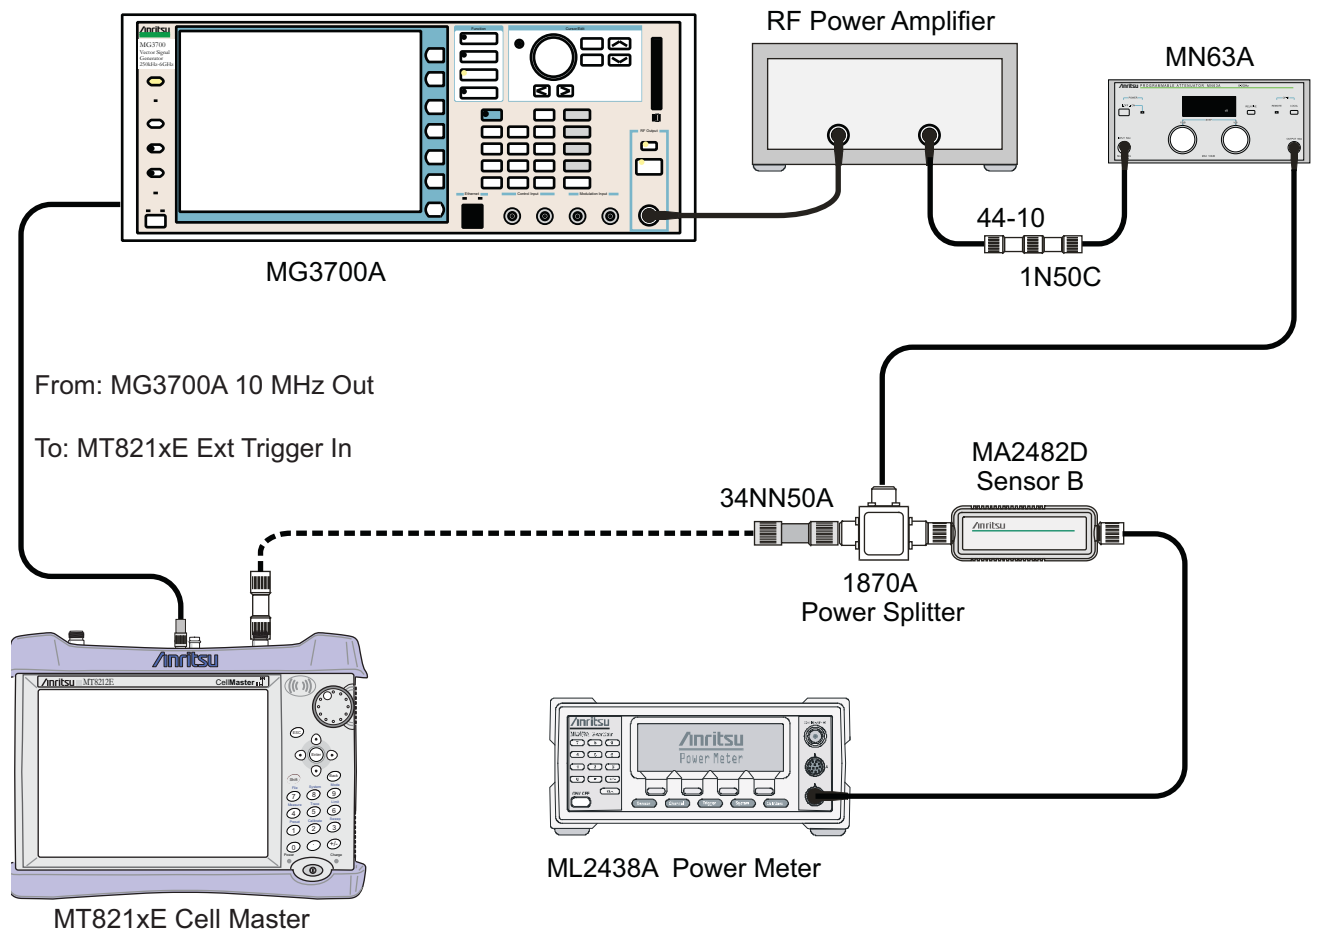

Figure 5-3. ISDB-T Level Accuracy and 1 dB Compression Level Post-test Setup
15. Remove Sensor A from the Power Splitter and then connect the Power Splitter to the MT821xE Spectrum Analyzer RF In with an N male to N male adapter as shown in Figure 5-3.